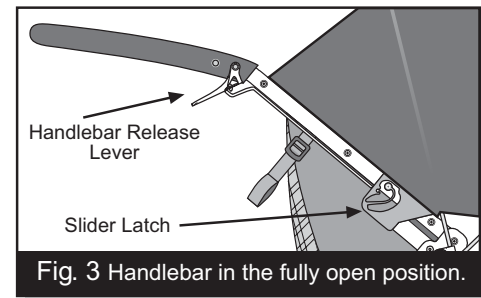

Fig. 3 Handlebar in the fully open position.
- 3. HANDLE:** Rotate the stroller handle up to the fully open position. Slider Latches will lock into place (Fig. 3).